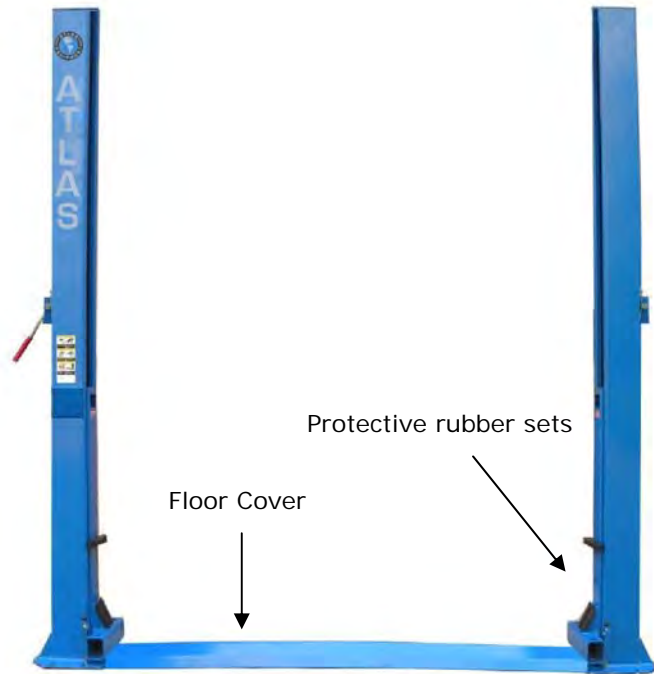

Fig. 23
M. Assemble Floor Cover and Protective Rubber Sets (See Fig. 23).